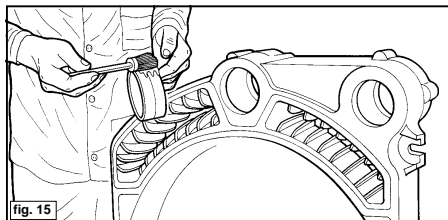

fig. 15
- 3 (fig. 15) Clean the cone inserts with solvent for grease. Using a soft brush, spread a thin layer of red lead (contained in the assembly kit) on the cone insert and its housing.